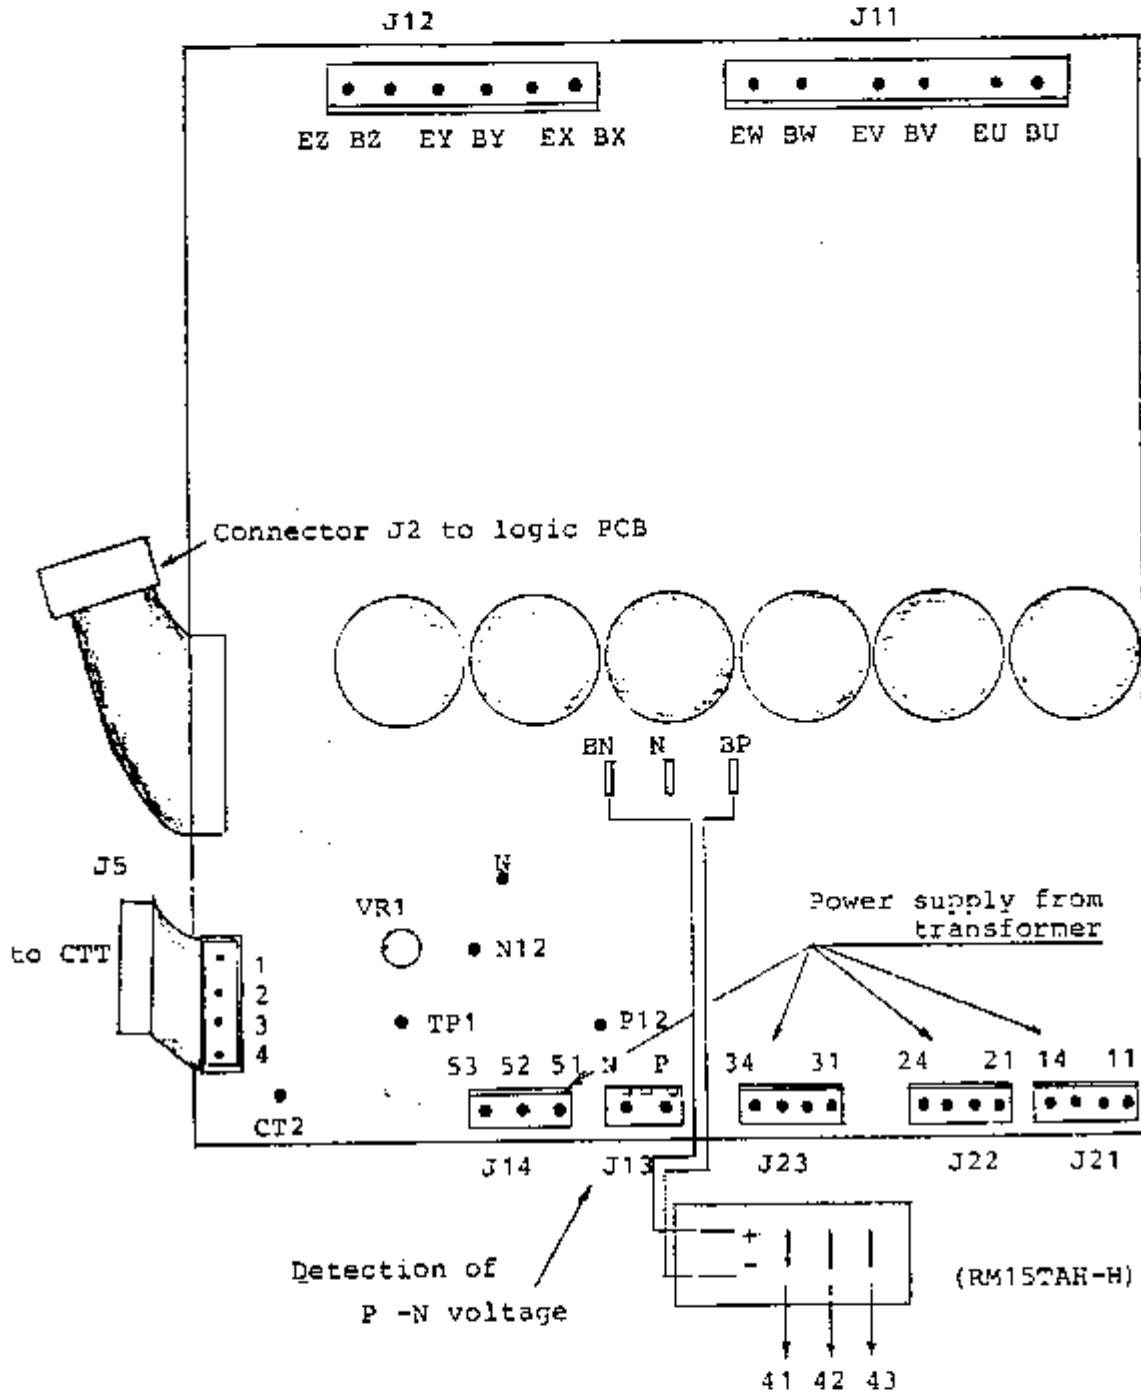

Fig.6
7.5 ~ 15HB, 22 ~ 150HC	: J11, J12 (Fig.5, Fig.6)